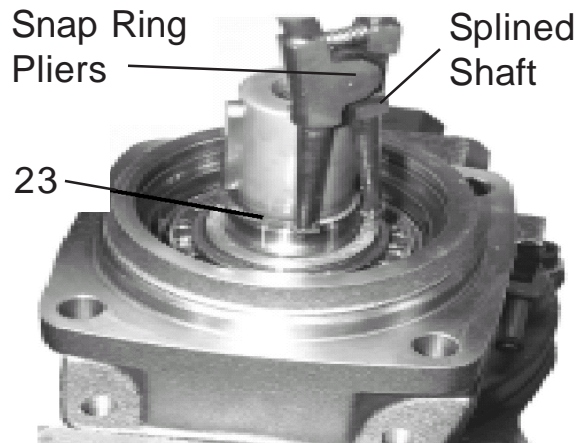

Figure 22
6. Install Bearing Retaining Ring. This is an external snap ring (item 23). Use snap ring pliers to slide snap ring down over shaft. (See Figure 22). Check Bearing load after snap ring is installed to make certain shaft has zero end play with bearings, If end play is not correct, the snap ring will need to be removed and the quantity of spacer washers will have to be changed.